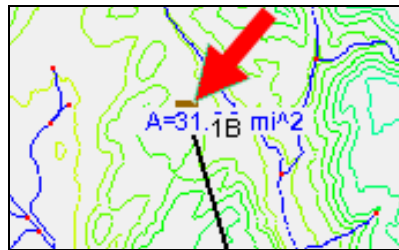

Figure 3 Basin icon 1B behind label, with top just visible
1. Using the **Select Basin**  tool, double-click on the brown basin icon to bring up the *HMS Properties* dialog. The icon may be partially obscured by another label (Figure 3).